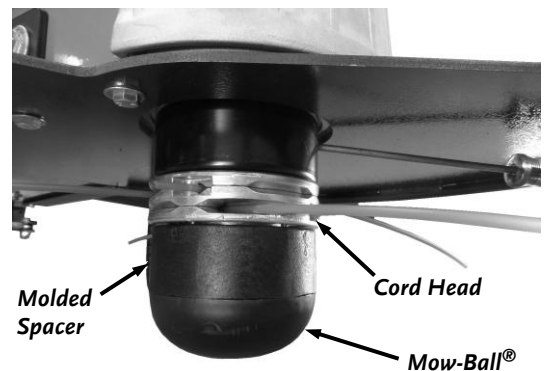

Figure 24
11. Tighten the assembly securely by turning the Mow-Ball® counterclockwise when looking down on the top of the Frame (**Figure 24**).